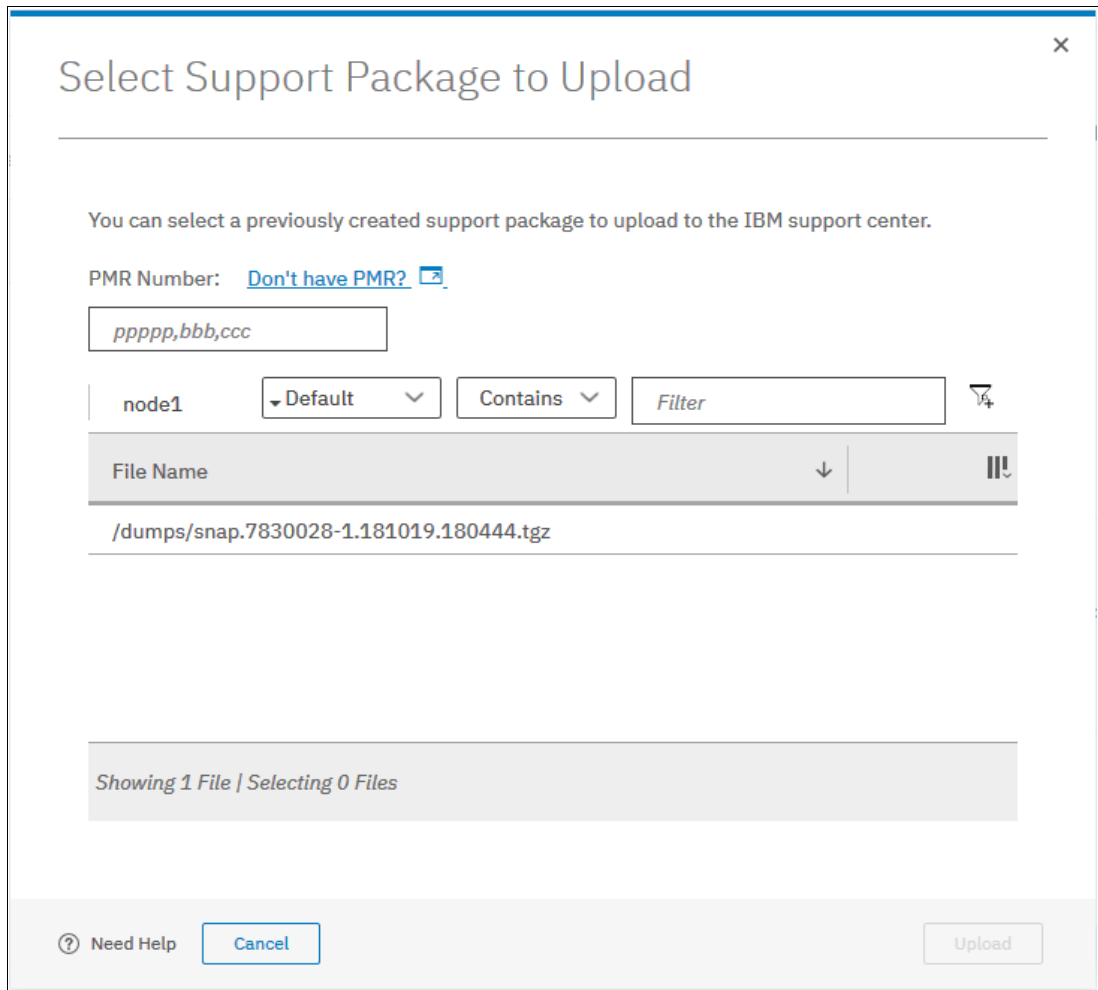

Figure 12-122 Select Support Package to Upload
20. Click **Upload Existing Package** and a window opens, as shown in Figure 12-122.